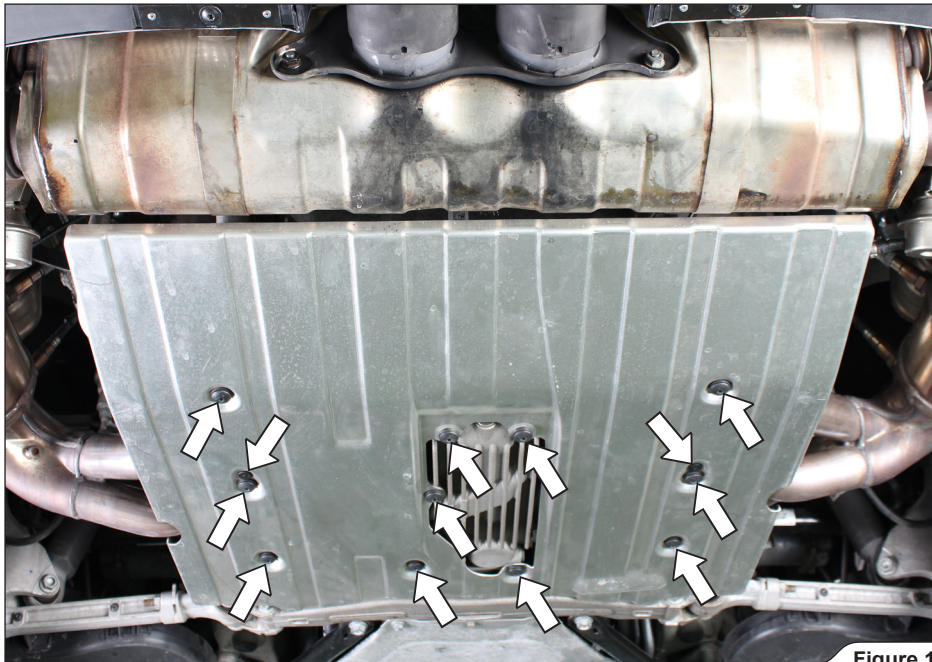

Figure 1
1. Unscrew the marked bolts, remove marked plastic pins and remove rear underbody panel (Figure 1).